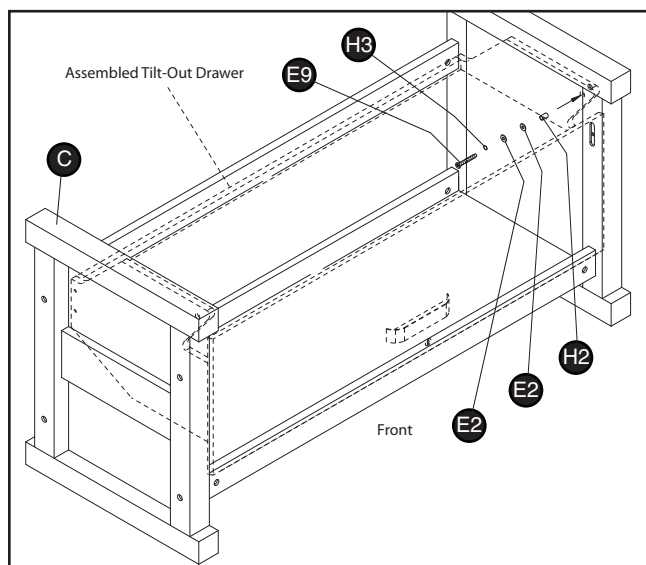
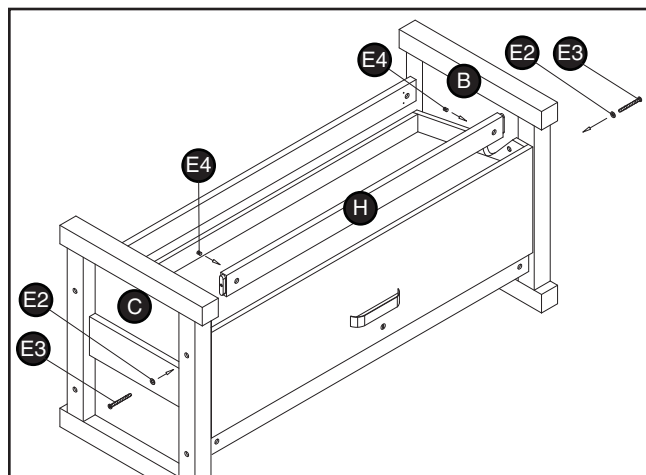

Figure 6. Tilt-drawer installation.
Figure 7. Final cross support installation.
8. Invert the tilt-drawer and install it between the left and right legs as shown in **Figure 6** with the (E9) screws, (E2) flat washers, and the (H2) brass tube.
9. With the tilt-drawer in position as shown in **Figure 6**, install two (E4) barrel nuts in the remaining cross support (H), and secure it in place (**Figure 7**) between the legs with the remaining (E3) screws and (E2) washers.